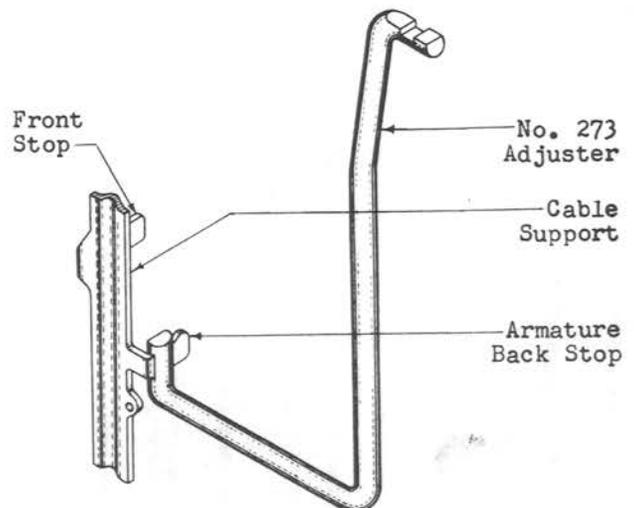
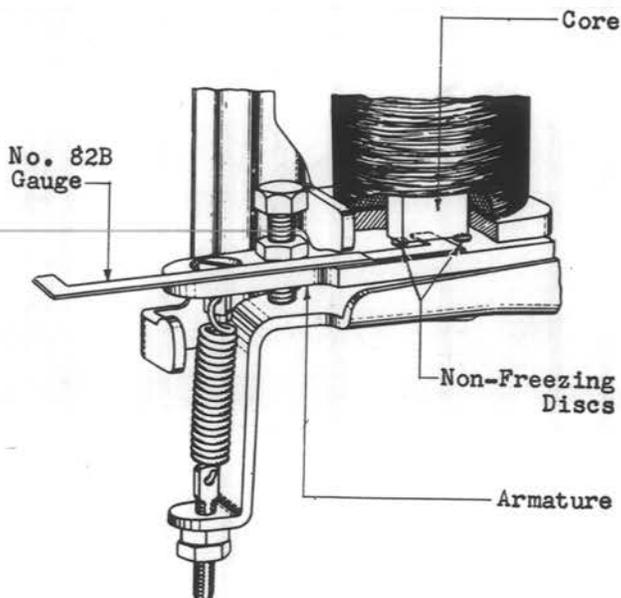
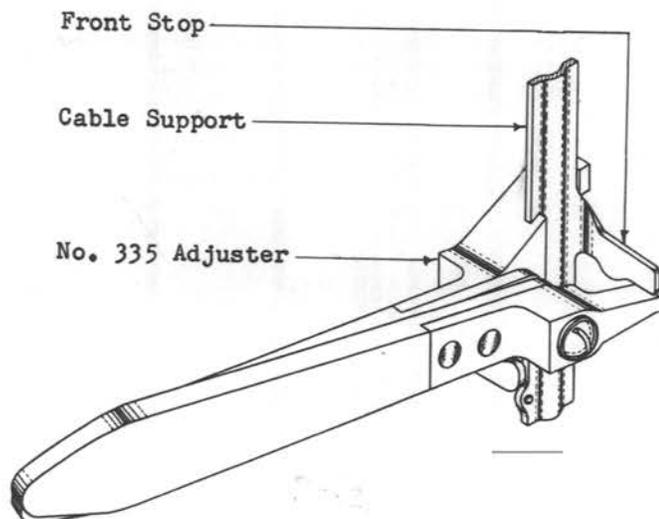

Fig. 15 - Adjusting Armature Back Stop
Fig. 17 - Checking Operated Core Gap
Fig. 18 - Adjusting Front Stop
(4) If it is not possible to lower the rear magnet sufficiently to obtain the proper clearance between the non-freezing discs or core of the rear magnet and the armature, as outlined in (3) proceed as follows. Raise the front stop with the No. 273 adjuster if the clutch is of the 1, 2 or 3 type or with the No.335 adjuster as shown in Fig. 18 if the clutch is of the 4,
- (1) Adjust the armature backstop by bending it up or down as required using the No. 273 adjuster as shown in Fig. 15.
(3) With the armature in the fully operated position, check the operated core gap with the No. 82B gauge as shown in Fig. 17. Observe that the .016" end of the gauge is free and the .024" end of the gauge is tight in the gap.
(4) Be sure that the gauge is not applied on top of the non-freezing disc. To insure this, place the gauge on top of the nearest non-freezing disc, and then energize the magnet and push the gauge away until it snaps off of the disc and the armature is felt or seen to move. Also work the gauge back and forth between the discs which will act as stops for the gauge.
(5) De-energize the magnet.
(6) Adjust the front stop up or down as required using the Nos. 273 or 335 adjuster as required. Use the notch in the shorter arm of the No. 273 adjuster for making this adjustment on 1, 2, and 3 type clutches in the same manner as adjusting the back stop as shown in Fig. 15, and the No. 335 adjuster for making the adjustment on 4, 5, 6 and 7 type clutches as shown in Fig. 18.
(1) Adjust the armature backstop by bending it up or down as required using the notch in the shorter arm of the No. 273 adjuster as shown in Fig. 15.
front stop with the No. 273 adjuster as shown in Fig. 15 until it clears the armature in its operated position. If this clearance between the front armature stop and the armature is not present on the 4 and 6 type clutches make the adjustment with the No. 335 adjuster as shown in Fig. 18.